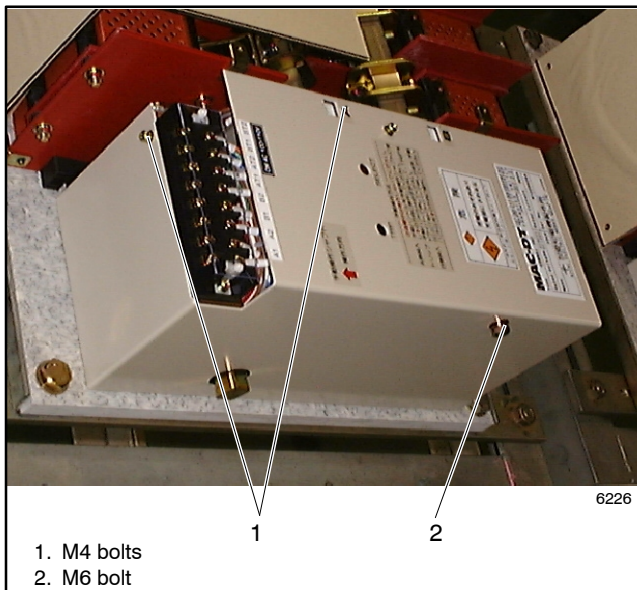

Figure 8-29 Removing the Cover
2. Remove the M4 bolts and the M6 bolt. Remove the cover from the mechanical unit. See Figure 8-29.